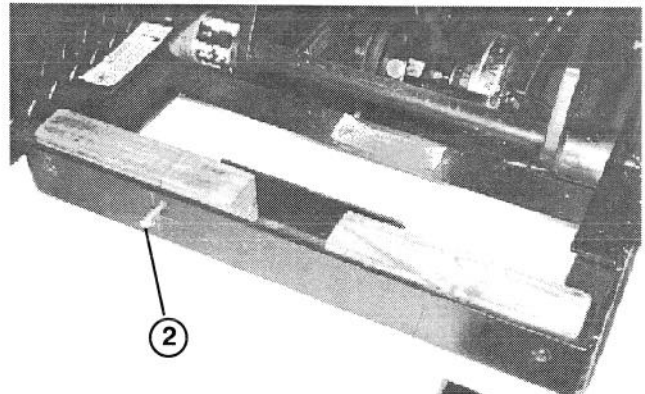

Figure 14
6. Remove retaining pins securing safety blocks to side of lift frame (Fig. 14).